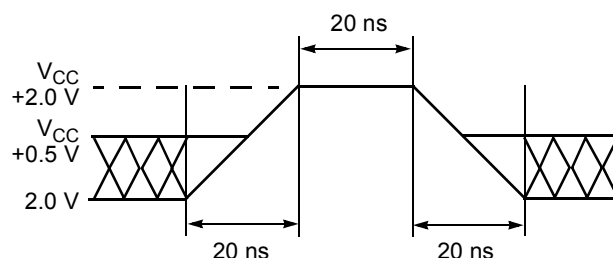

Figure 10. Maximum Positive Overshoot Waveform
1. Minimum DC voltage on input or I/O pins is -0.5 V . During voltage transitions, input or I/O pins may overshoot V_{SS} to -2.0 V for periods of up to 20 ns. Maximum DC voltage on input or I/O pins is $V_{CC} + 0.5\text{ V}$. See Figure 10. During voltage transitions, input or I/O pins may overshoot to $V_{CC} + 2.0\text{ V}$ for periods up to 20 ns. See Figure 11.
2. Minimum DC input voltage on pins A9, OE#, ACC, and RESET# is -0.5 V . During voltage transitions, A9, OE#, ACC, and RESET# may overshoot V_{SS} to -2.0 V for periods of up to 20 ns. See Figure 10. Maximum DC input voltage on pin A9, OE#, ACC, and RESET# is $+12.5\text{ V}$ which may overshoot to $+14.0\text{ V}$ for periods up to 20 ns.